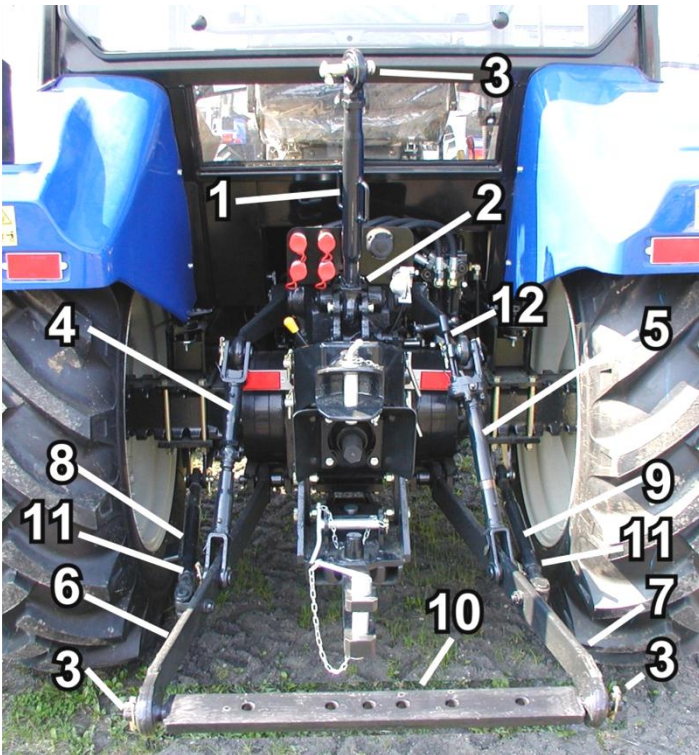

Fig. 4.6.1. Three-point linkage
The tractor hydraulic lift system with three-point linkage (see Fig. 4.6.1) facilitates control of implements and machines from operator's place.
- move back the tractor to the implement aligning the ends of lower links (3 - Fig. 4.6.1) with the implement hitch pins,
- as required adjust the height of the right hand lower link with the leveling lever (12 - Fig. 4.6.1) control and attach to the implement hitch pin,
- depending on the implement, attach the top link (2 - Fig. 4.6.1) to a selected hole of the lift rocker and then to the implement cross shaft adjusting its length as necessary,
- adjust the stabilizer bars for side swing (Fig. 4.6.1),
To lengthen or shorten the stabilizers use tube nut (8,9 - Fig. 4.6.1) with handle.
After setting length of both stabilizers secure the nut with lock nut (11 - Fig. 4.6.1).
Apart from the three-point hitch (Fig 4.6.1), the machines and implements can be attached to: